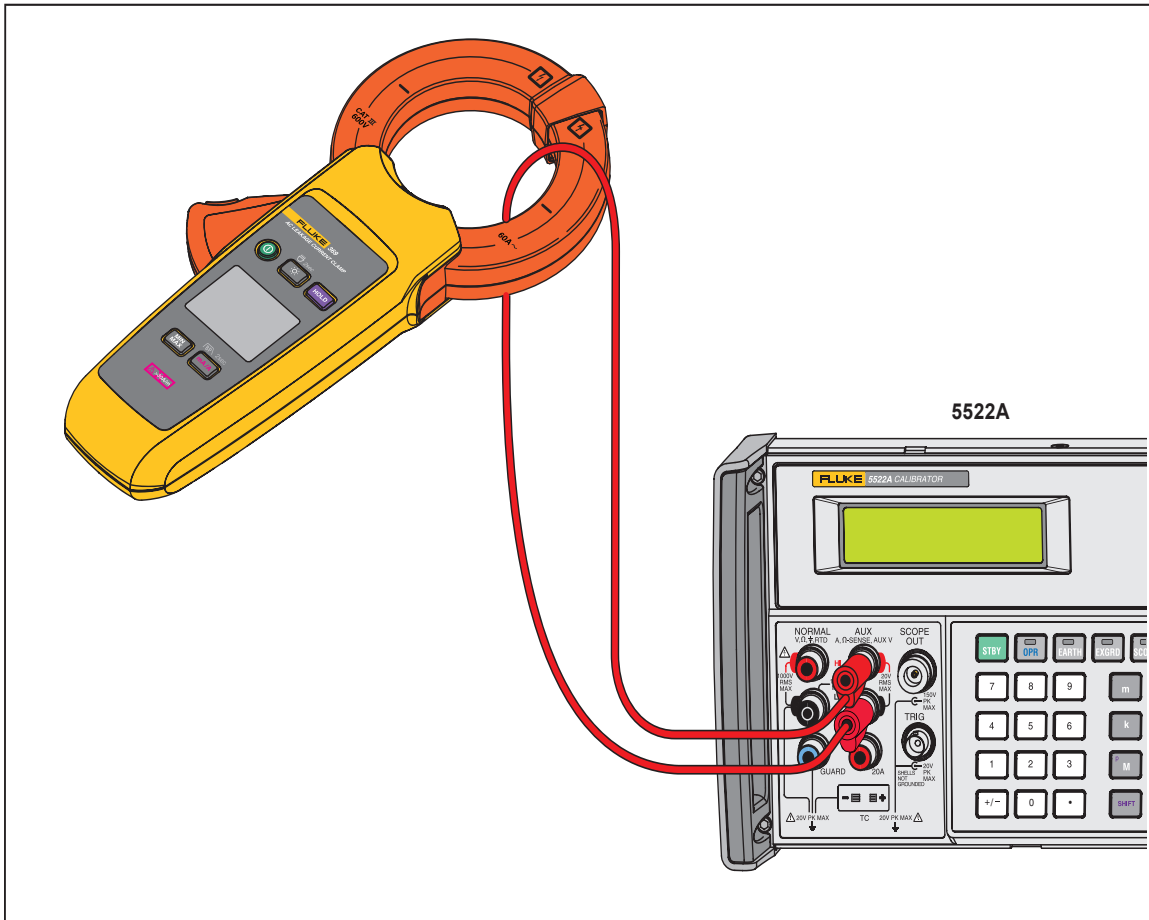

Figure 3. AAC Connections without 50-turn Coil
1. Connect the UUT as shown in Figure 3.